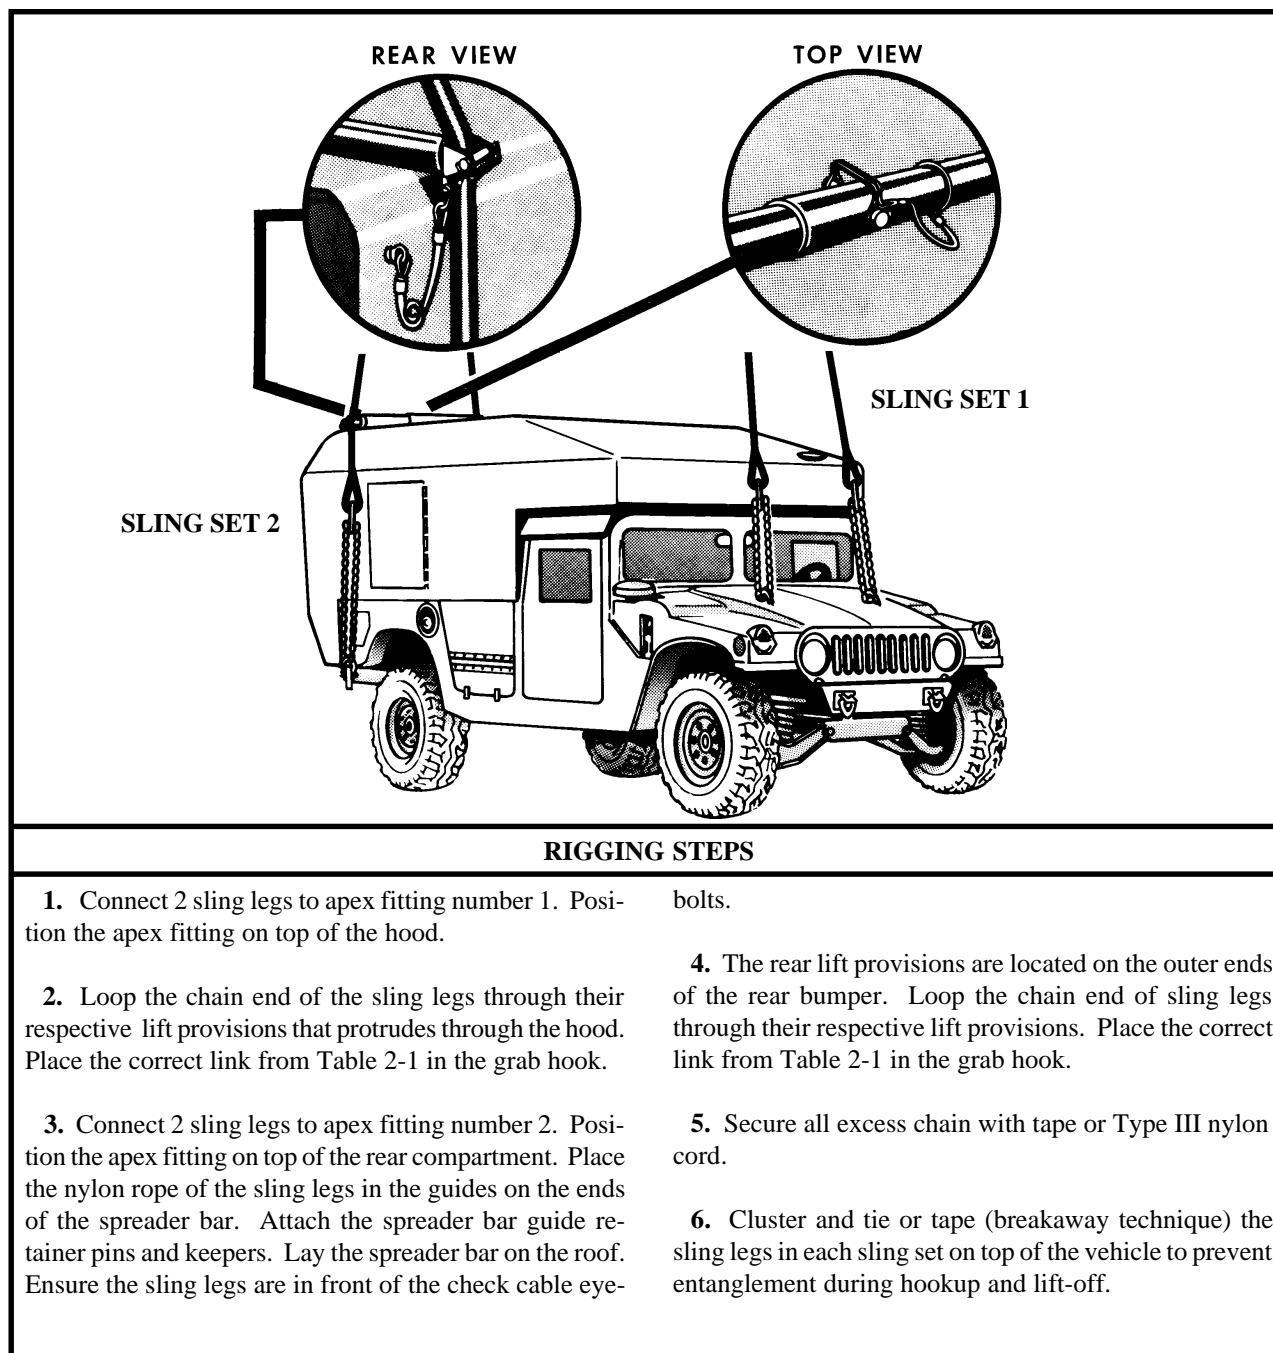

Figure 2-1. M996/M997/M997A2 Ambulance (HMMWV)
(i) Remove the keeper from the spreader bar and extend the bar so the holes line up. Reinstall pin and engage keeper. Use the sighting hole in the tube to assist in aligning holes for the pin. See top view insert in Figure 2-1.
(j) Position the spreader bar across the rear end of the vehicle roof. Attach the spreader bar check cables to the eyebolts located on the aft exterior sidewall of the rear compartment. See rear view insert in Figure 2-1.
(2) **Rigging.** Rig the load according to the steps in Figure 2-1.
(4) **Derigging.** Derigging is the reverse of the preparation and rigging procedures in steps d (1) and d (2).